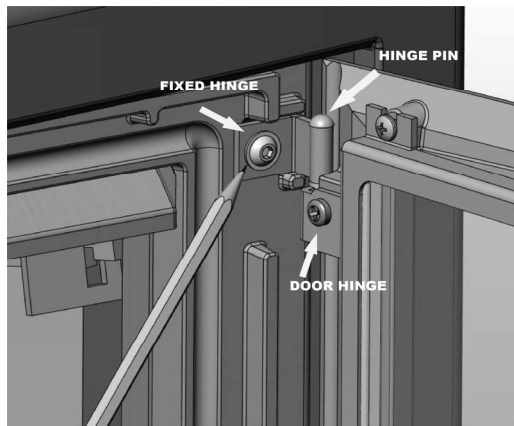

Figure 15: Mark Hinges
Step 1: Open door fully and note the position of the hinges where they attach to the insert. With a pencil draw a circle around the head of the screws (see figure 15) where they attach the fixed hinges. These circles will give a starting point when the hinges are moved to the other side of the insert.